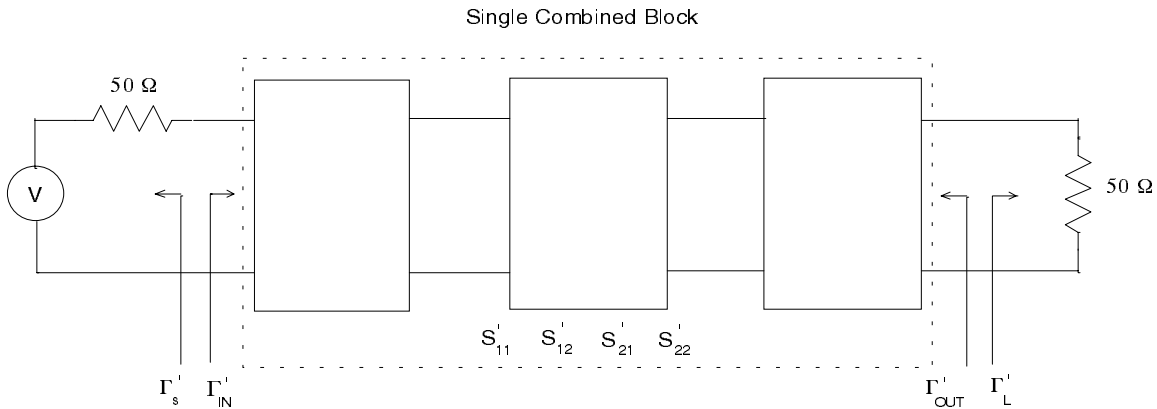

Figure 8: How MDS calculates S -parameters and Γ values.
2. In MDS, S -ports cannot be inserted between circuit blocks. They can only be placed on the input and output ports of the overall circuit. Figure 8 illustrates this situation. Notice that in the prime reference system, the S -parameters are for the overall circuit and not for the BJT alone.